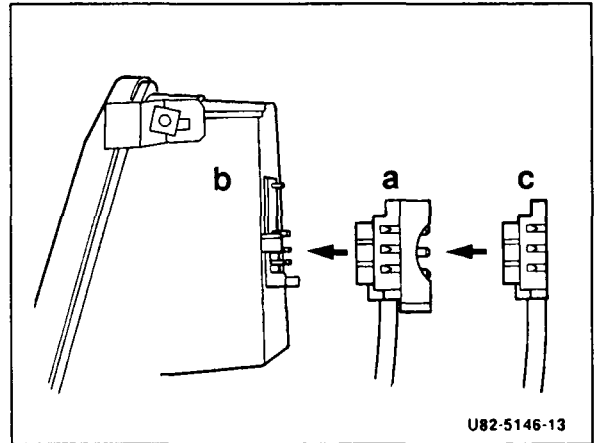

Figure 6
13. To connect the driving lamps, install the combined 6-pin plug/socket (a, Figure 6) in the vehicle and insert between the 4-pin socket on the headlamp assembly (b) and the 4-pin standard production plug (c).